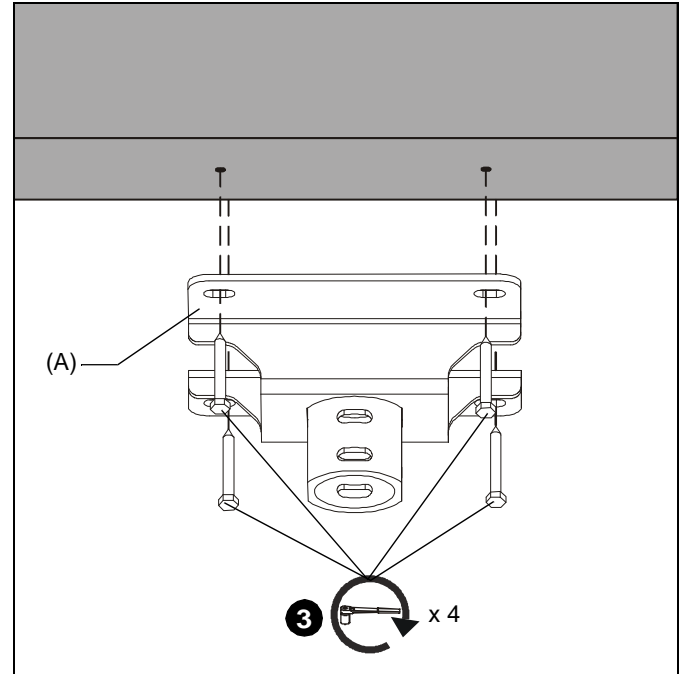
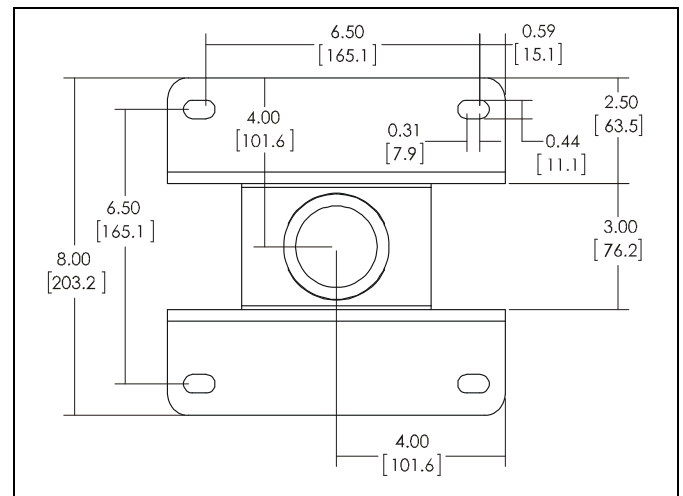

Figure 2
Figure 3
3. Install and tighten four 5/16" x 2-3/4" (minimum) lag screws (not included) through CPA330 (A), into wood stud cross bracing. (See Figure 2) (See Figure 3) for dimensions details.
2. Secure the threaded rods to the CPA mount with ASTM A307 or better 3/8" jam nuts (not provided) and washers (one of each on inside and one of each on outside-not provided). (See Figure 3) for dimensions details.
1. Using ceiling plate (A) as a template, mark locations of four pilot holes on ceiling.
3. Use four UX10 anchors (not provided) to secure CPA mount into solid concrete ceiling. (See Figure 3) for dimensions details.